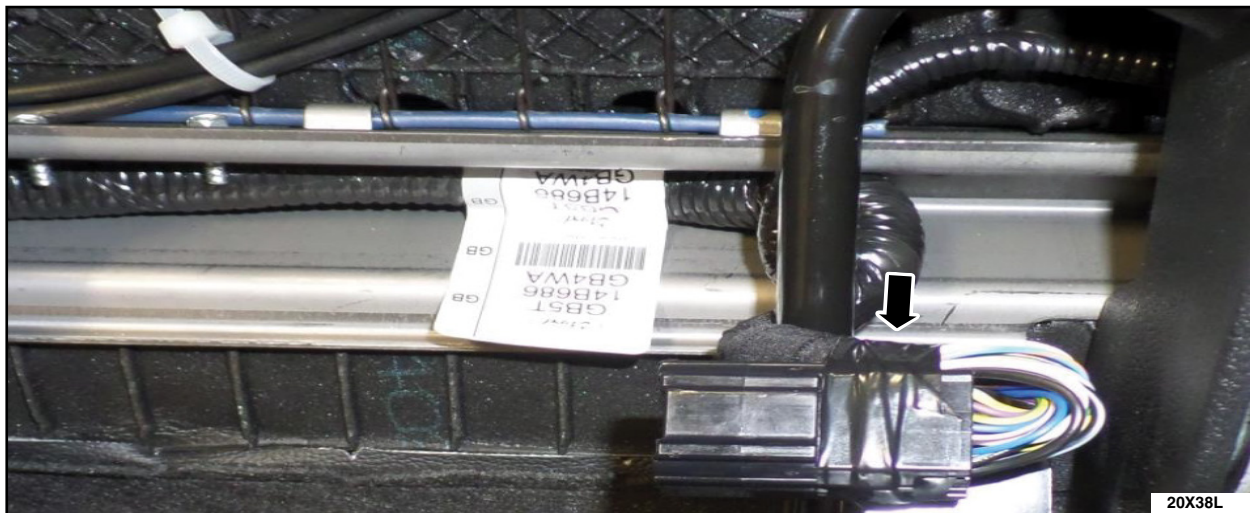

FIGURE 16
9. On the male connector create a 15-20 mm (1/2-3/4") loop with the wiring harness and secure the harness to the connector using electrical tape. Make sure the wire loop does not contact the seat trim. Wrap the harness and connectors 3 times to provide harness stress relief and to prevent damage to the connector terminals when the seat is folded forward. See Figure 16.
18. On the male connector side, create a 15-20 mm (1/2-3/4") loop with the wiring harness and secure the harness to the connector using electrical tape. Make sure the wire loop does not contact the seat trim. Wrap the harness and connectors 3 times to provide harness stress relief and to prevent damage to the connector terminals when the seat is folded forward. See Figure 16.